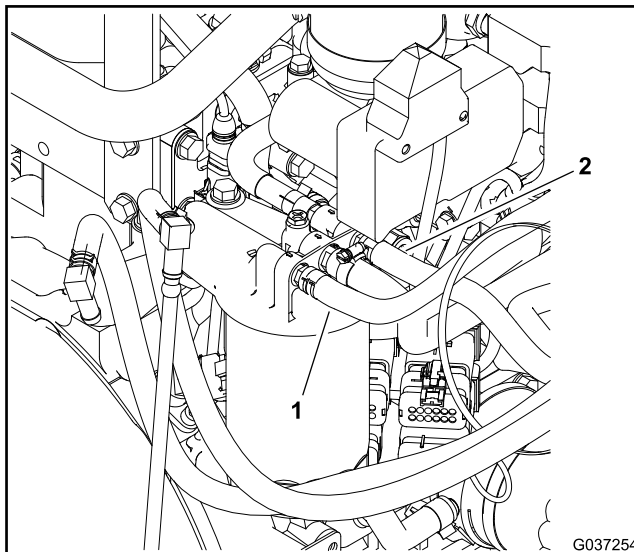

Figure 18
14. For assembly purposes, label the fuel hoses. Disconnect the fuel supply hose (item 1 in Figure 18) and return hose from the fuel filter on the engine.
11. Use the labels that you attached during removal to correctly connect the fuel supply hose (item 1 in Figure 18) and return hose to the fuel filter.